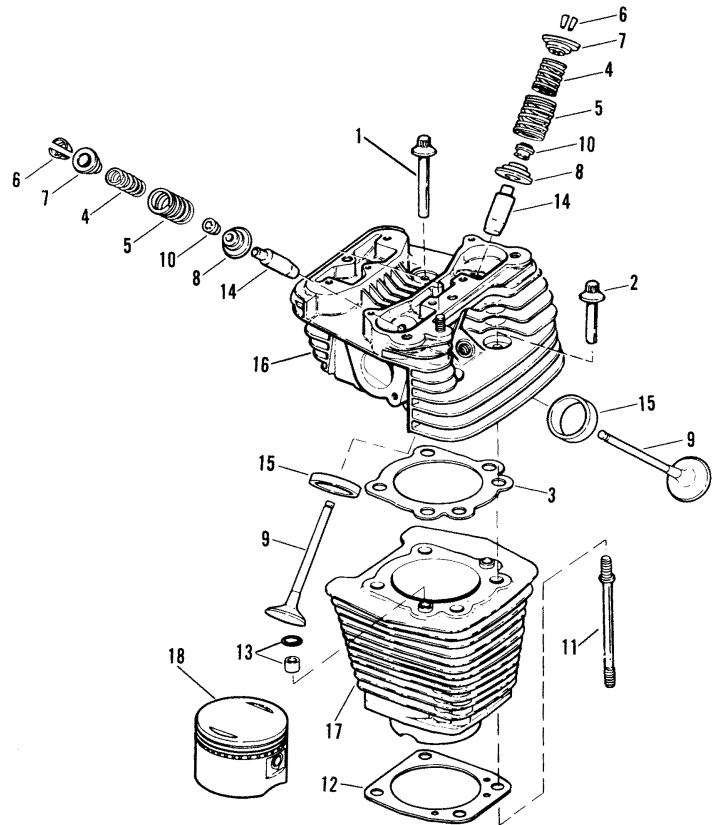
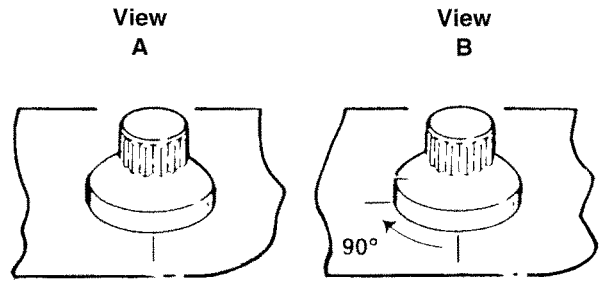

Figure 4 - Cylinder Head and Cylinder
Figure 9 - Tightening 1986-1995 Head Bolts
9. **See Figure 4.** Loosen each head bolt (1, 2) 1/8 turn following the cross pattern sequence shown in **Figure 9**
2. Dip the head bolt threads and bottom face of bolt head in oil; then wipe off any excess. Install the head bolts (1 and 2, Figure 4) finger tight.
3. **See Figure 9.** Mark a line on the cylinder head and a corresponding line on the head of the cylinder head bolt as shown in View A. Following the same sequence 1, 2, 3, then 4, turn each bolt, one at a time one quarter turn (90°) using the marks as a guide. When marks are all positioned, as in View B, the procedure is completed.